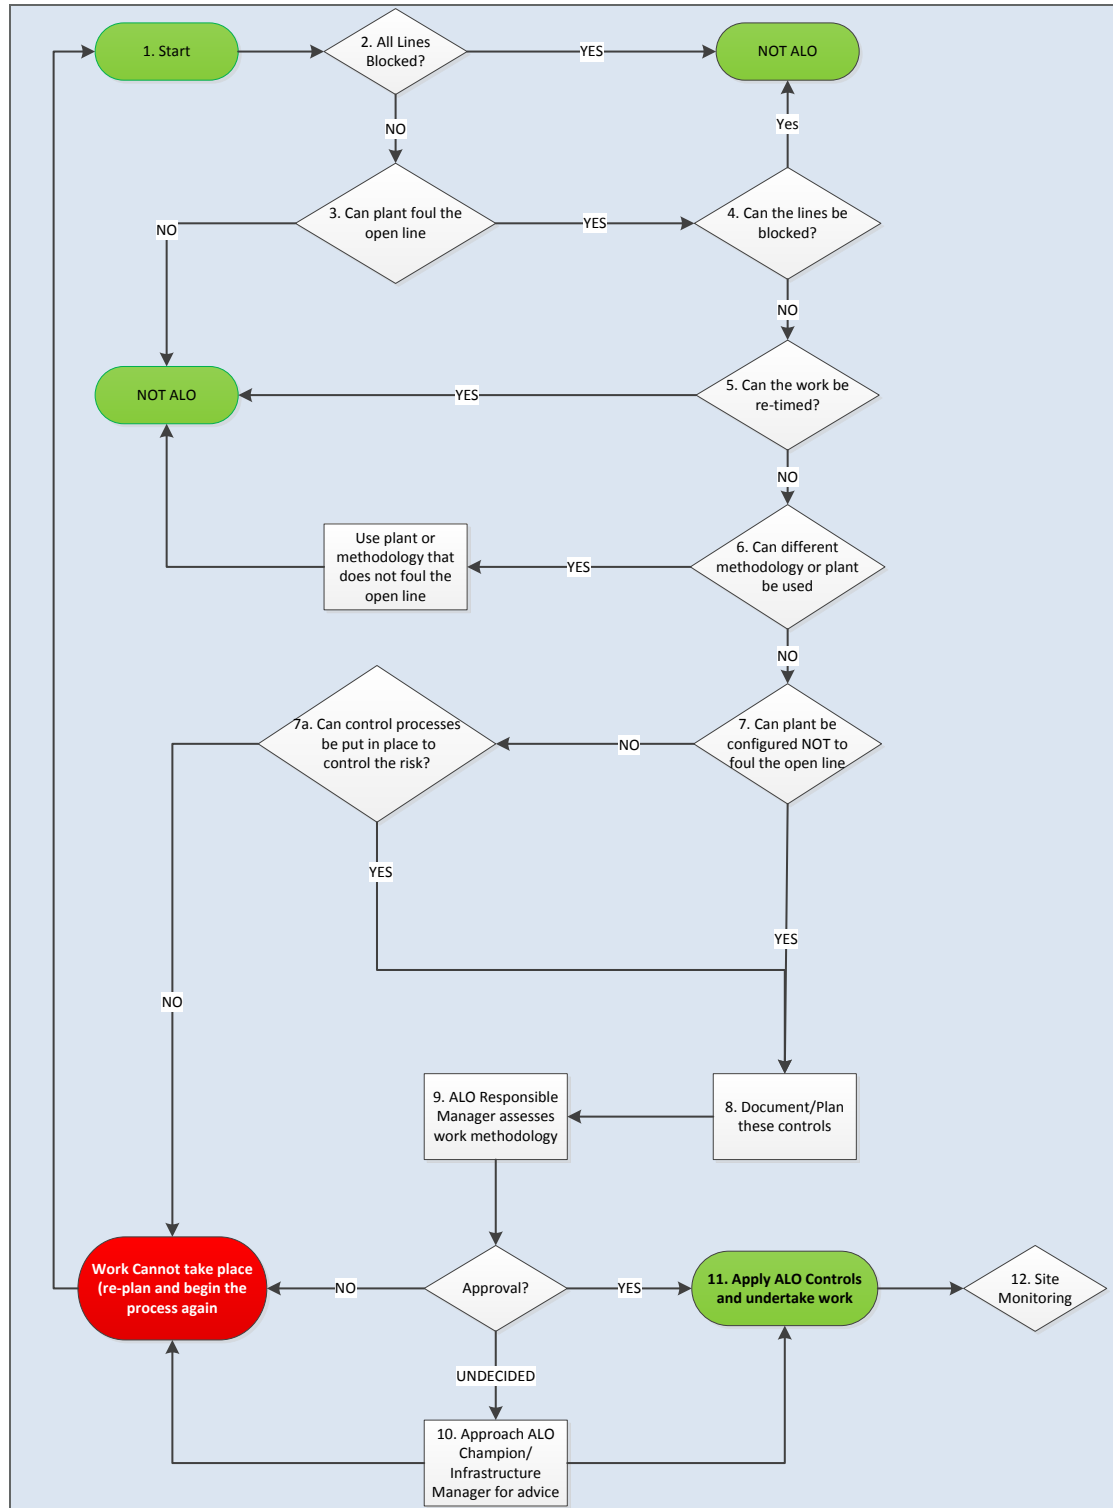

Fig 2 Detailed planning process flowchart
- 2.4.1 The detailed planning process is shown in flowchart format in Figure 2, with each stage explained in Table 3.